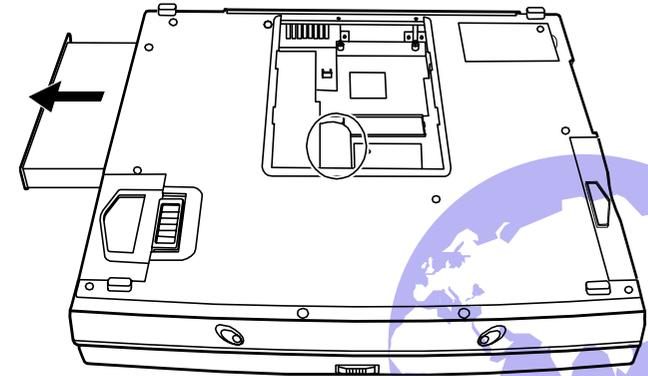

Figure 5-10. Removing the CD-ROM/DVD-ROM Drive
1. Slide the CD-ROM/DVD-ROM drive into the compartment. The cable connector on the system board will automatically plug into the rear side of the drive. (Refer to Figure 5-10.)